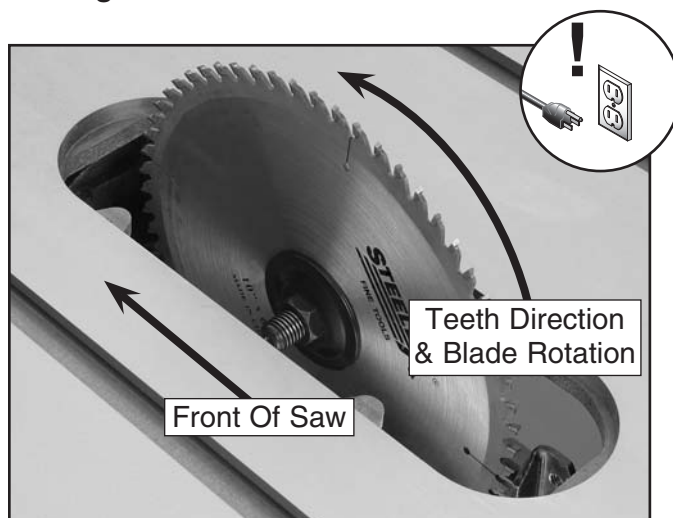

Figure 24. Correct blade direction.
2. Slide the blade over the arbor with the teeth facing the front of the saw as shown in **Figure 24**.